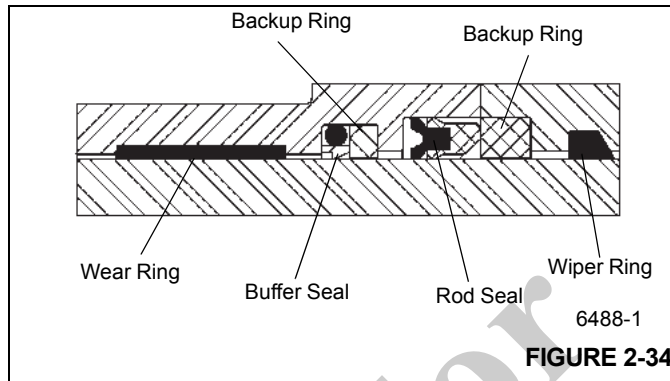

FIGURE 2-34
10. Install the wiper ring, wear ring, buffer seal and rod seal into the head ensuring the seals are assembled properly and installed in the correct direction (Figure 2-34).